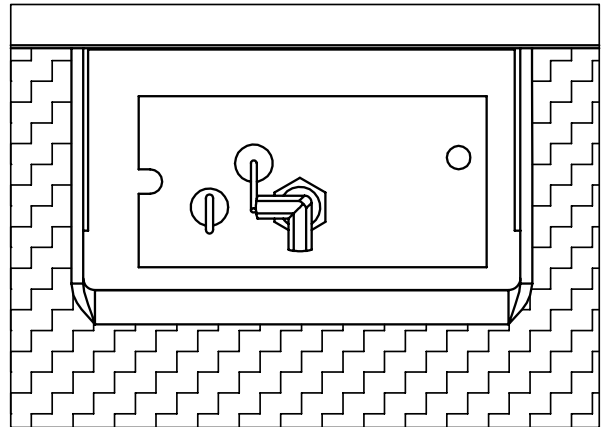

Figure 23. Correct Pilot
8. Reinstall the burner, tray, glass media, and glass door. Also refer to SECONDARY INSTALLATION - FIREBOX LINER AND BURNER TRAY REMOVAL section. When re-installing the burner, ensure that the burner to pilot hood relationship is similar to what is shown in Figure 23.